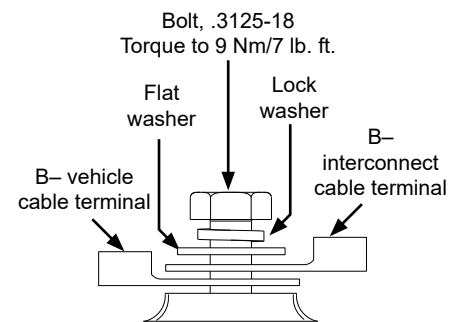

Figure 3: B- Terminal Hardware Stacking Order
6. Connect vehicle B- cable to alternator B- terminal. Connect interconnect cable between both B- terminals. Install hardware on B- terminal in stacking order shown in Figure 3. Torque to 9 Nm/7 lb. ft.